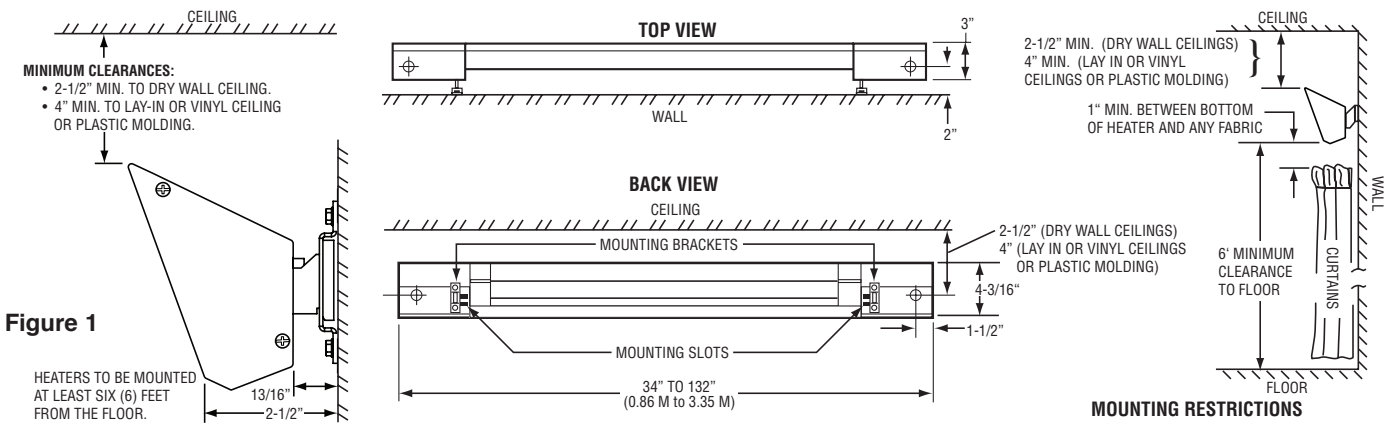

Figure 1
1. Locate a wall stud for mounting the center bracket. Use the mounting template provided to mark screw location after reviewing ceiling clearances shown in Figure 1.